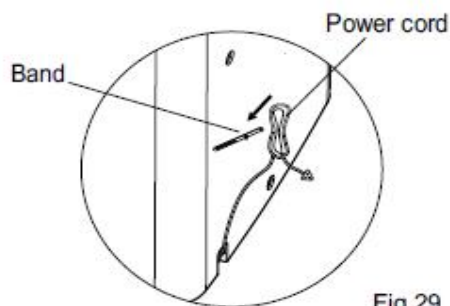

Fig.29
- Wrapped the power cord and bundle it with the tape (Fig.29)